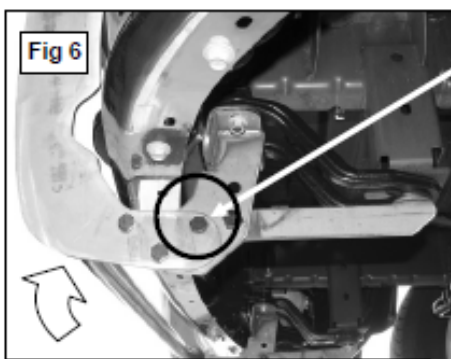

Fig 6
6. Lay the Grille Guard face down on a clean surface on the ground in front of the vehicle. Secure the Grille Guard to the outside of the Mounting Brackets using one 12-1.75mm x 35mm Hex Head Bolt, (1) 12mm Lock Washers, (2) 12mm Flat Washers, and (1)12mm Hex Nut per side to act as a hinge in the location pictured in **Figure 6**. With assistance, rotate the Grille Guard up to line up with the Upper Support Brackets and insert (4) 12-1.75mm x 35mm Hex Head Bolts, (4) 12mm Lock Washers, (8) 12mm Flat Washers, and (4)12mm Hex Nuts into the remaining holes in the Mounting Brackets. Use (2) 8mm x 20mm Button Head Allen Bolts, (4) 8mm x 22mm OD x 1.5mm Flat Washers, (2) 8mm Lock Washers and (2) 8mm Hex Nuts to fasten the Upper Support Bracket to the Grille Guard, **(Figure 7)**. **IMPORTANT:** Slowly close the hood to check for clearance